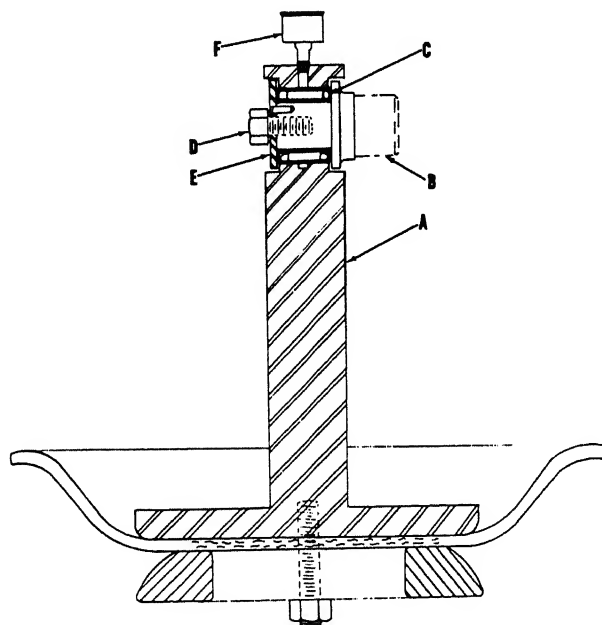

FIGURE 5
- A. Remove four $\frac{5}{8}$ " hex nuts with washers (Y) from studs (U). Pull discharge valve body (S) off studs (U).
- B. Remove two brass nuts with washers (R) and two brass machine screws (K). Washer (L) and weight (P) may be pulled off rubber flap valve (N).
- C. Replace flap valve (N). Assemble items (K) thru (R) and place on pump body over the studs. Place valve body on pump over studs and secure with the $\frac{5}{8}$ " hex nuts.
21. Connecting Rod Needle Bearing Repair (Fig. 5)
Reference for Fig. 5